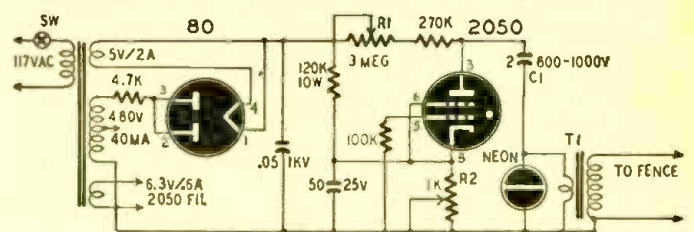

Fig. 2—This electronic fence charger delivers about 3,000 volts.
A. This fence controller (Fig. 2) has variable output and variable pulse rate. C1 and R2 control the output voltage. If C1 is made up of a number of small condensers which may be connected in parallel through a switch, a wider voltage variation is possible. R1 sets the pulse rate. This should be adjusted to produce about 1 pulse per minute.